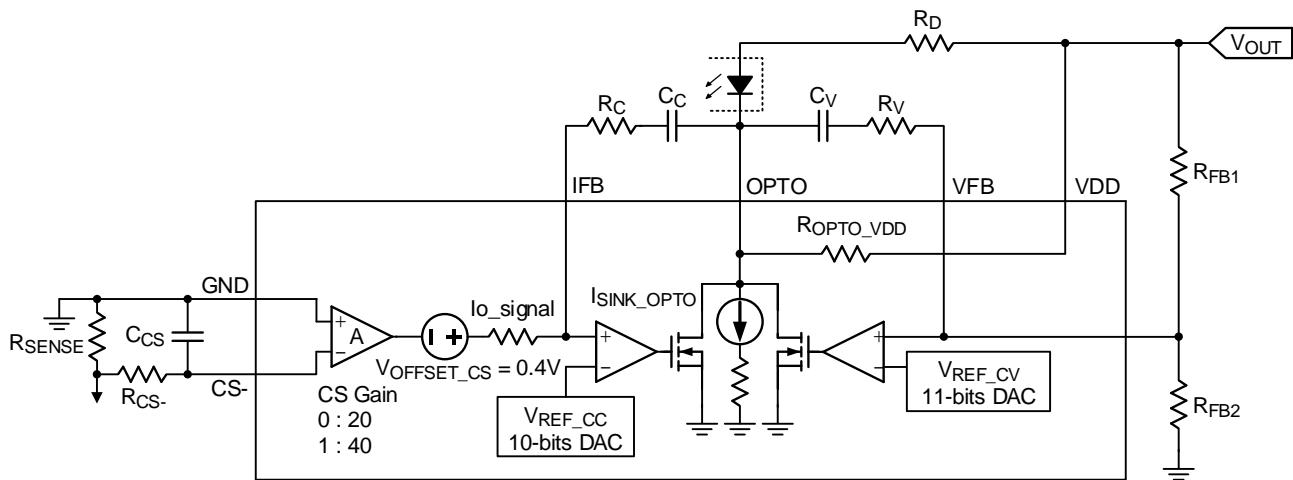

Figure 5. CV Loop and Current-Sense Amplifier
As shown in Figure 5, the RT7202K integrates an error amplifier (EA) to regulate the output voltage. The output voltage is determined by the following equation: